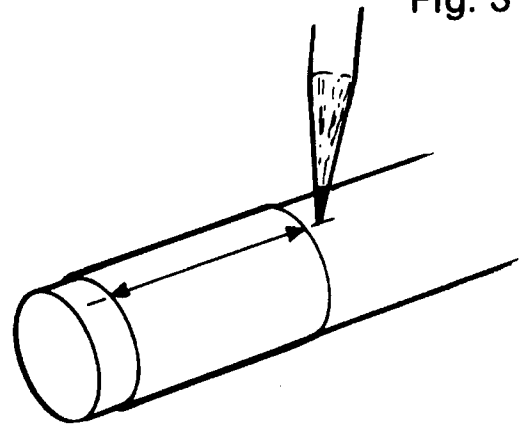

Fig. 3
- C Place a mark on the body tube where each fin position is shown by an arrow on the Guide. These marks will show you where to align the fins when gluing them to the tube (Fig. 3).